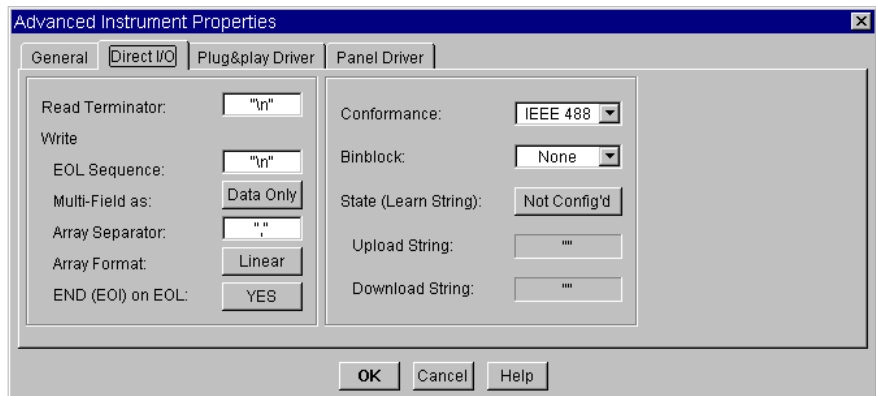

Figure 3-15. The Direct I/O Configuration Folder
3. Click on Advanced. Select the Direct I/O folder as shown in Figure 3-15. Look through the options available, then click OK to return to Instrument Properties, then OK again to return to the Instrument Manager.